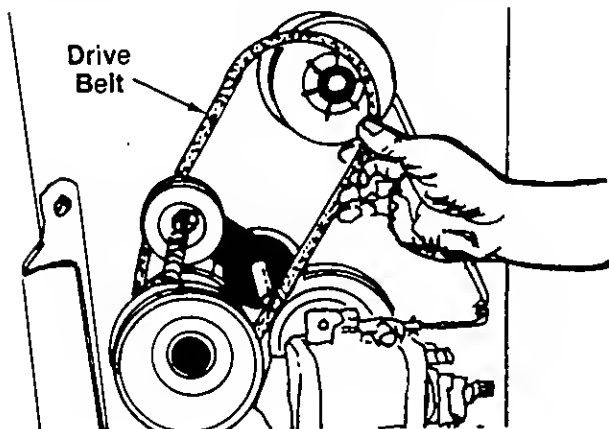

FIGURE 31.
9. Remove and replace the "V"-belt. See figure 31.